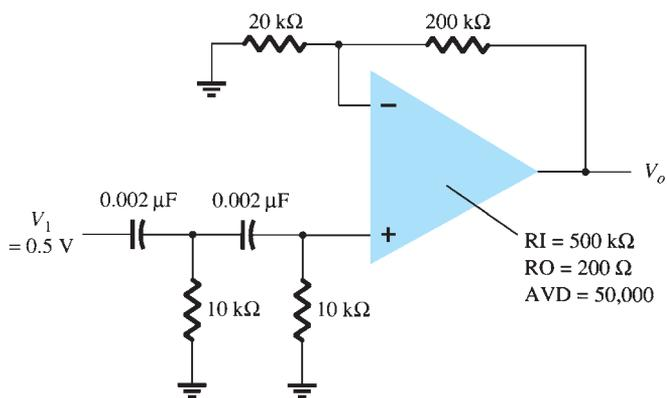

FIG. 11.63
*21. Use Multisim to plot the response of the high-pass filter circuit in Fig. 11.63.